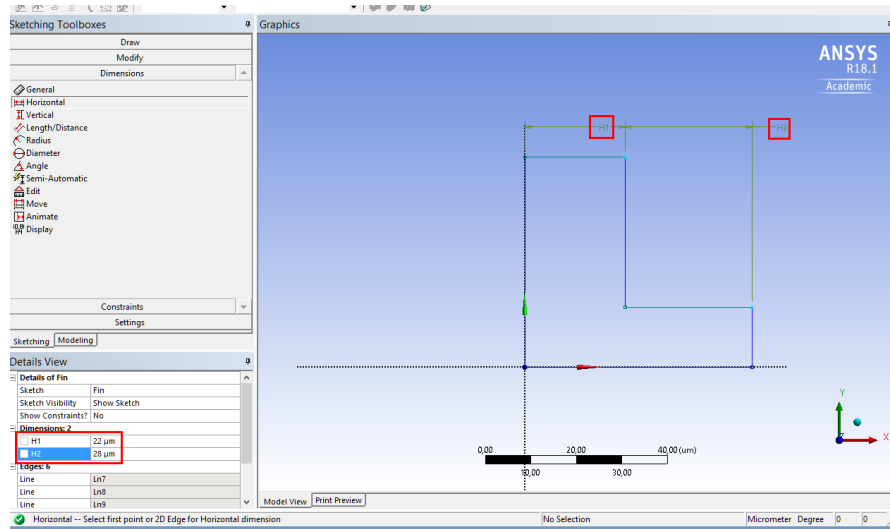

Figure 10: Set the horizontal dimensions of the finned profile.
- Set the half-width of the water channel ( $w_c/2 = 28 \mu\text{m}$ ) and the half-width of the silicon fin ( $w_w/2 = 22 \mu\text{m}$ ), as in figure 10.